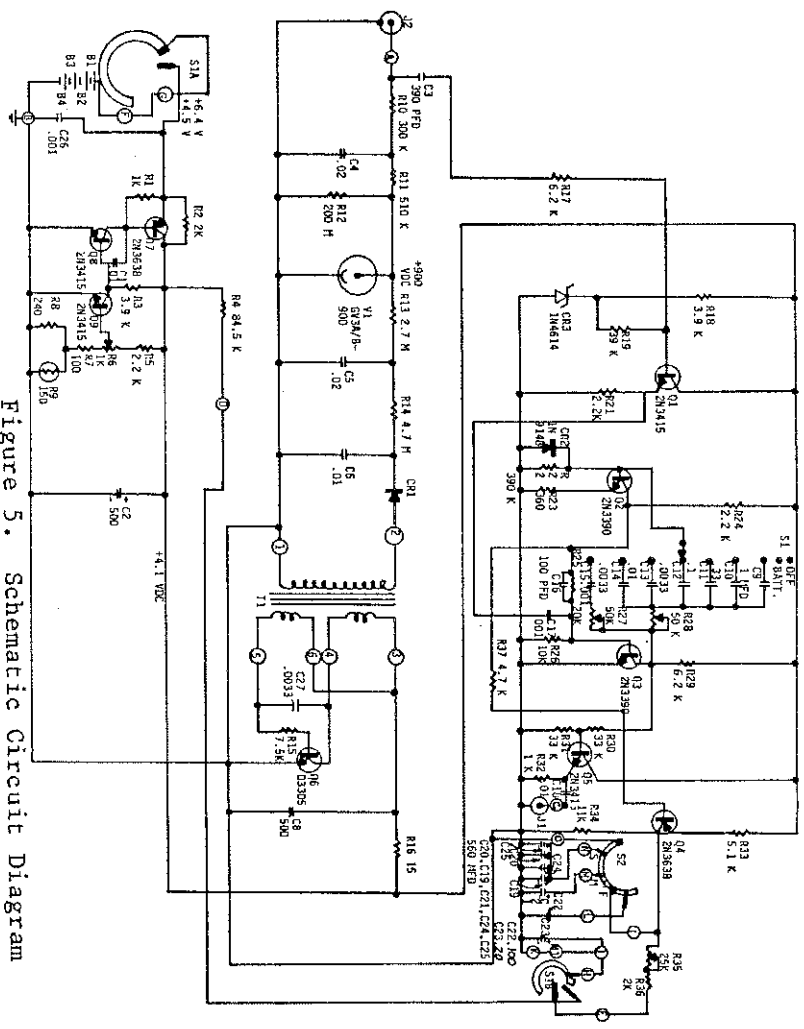

Figure 5. Schematic Circuit Diagram
1. Connect the voltmeter from the collector of Q7 to ground (Figure 5) and adjust R6 for an output voltage of 4.1 V.